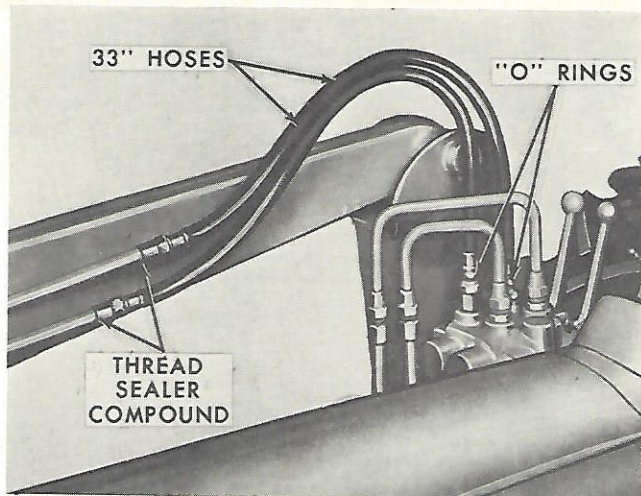
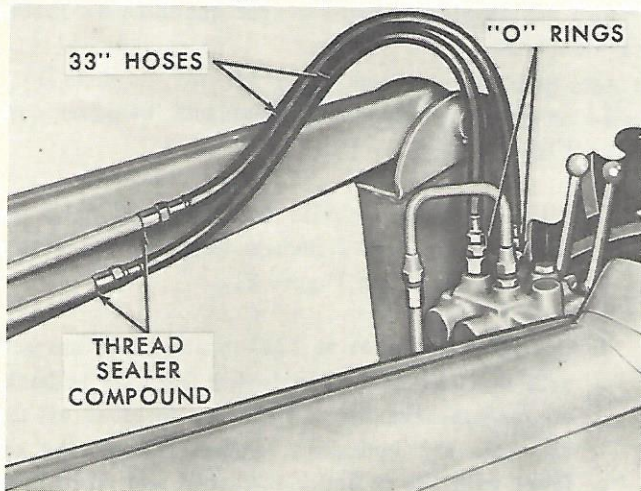

Figure 16
Figure 17
10. Install the control valve hoses and "O" rings as shown in Figure 16 for Model 19-335, or Figure 17 for Model 19-336.